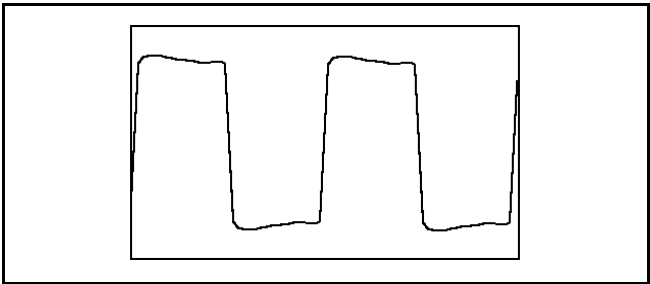

Figure 8 - Low Speed Data Waveform
Leave the low speed data on while setting the transmit (TX) deviation. The low speed data and transmitter deviation are independent of one another and are summed together for total output deviation. Figure 8 shows a typical waveform for low speed data using the Tektronix Digital Storage Scope.